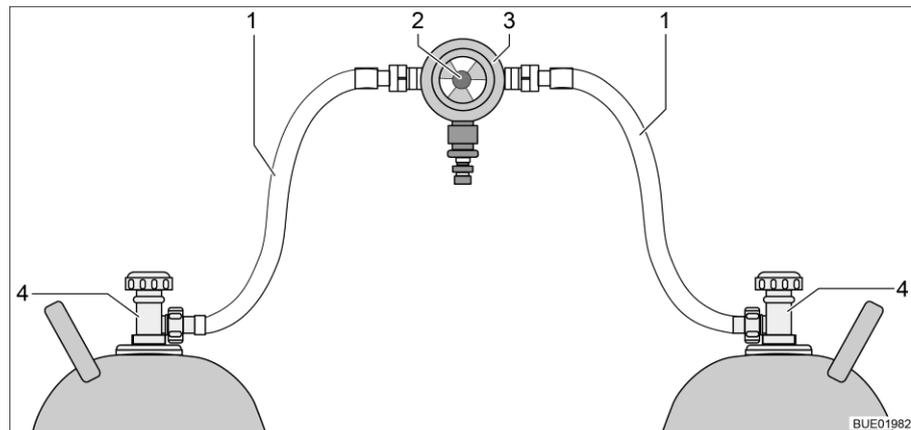
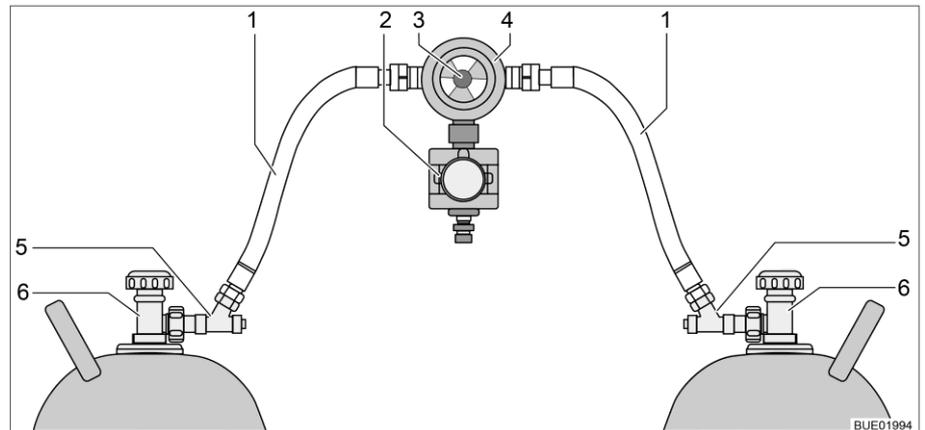

Fig. 177 Gas bottle switching facility
Fig. 178 Gas bottle switching facility with CPU
The gas bottle switching facility consists of a combined gas pressure regulator with reversing valve and indicator (Fig. 177,3). The gas bottle switching facility is installed between the two gas tubes (Fig. 177,1).
The gas bottle switching facility consists of a combined gas pressure regulator with reversing valve and indicator (Fig. 178,4), and an electrovalve (Fig. 178,2). The electrovalve blocks the gas supply to the vehicle in the event of a full braking, an accident, or an unusually great inclined position. The gas bottle switching facility is installed between the two gas tubes (Fig. 178,1) with hose break guards (Fig. 178,5).
Use the knob (Fig. 177,2 or Fig. 178,3) on the gas bottle switching facility to select which of the gas bottles is to be used as a primary bottle and which is to be used as a reserve bottle.
Only the electrical functions can be switched at the operating unit (Fig. 179). The regulator taps on the gas bottles (Fig. 177,4 or Fig. 178,6) must be opened and closed manually.
- Open the regulator taps of the gas bottles (Fig. 177,4 or Fig. 178,6).
- Press the hose break guards (Fig. 178,5) successively for 10 seconds.
- Use the knob (Fig. 177,2 or Fig. 178,3) on the switching facility to select the gas bottle which is to be the primary source of gas (primary bottle). Always turn the knob as far as it will go.
- Close the regulator taps of the gas bottles (Fig. 177,4 or Fig. 178,6).